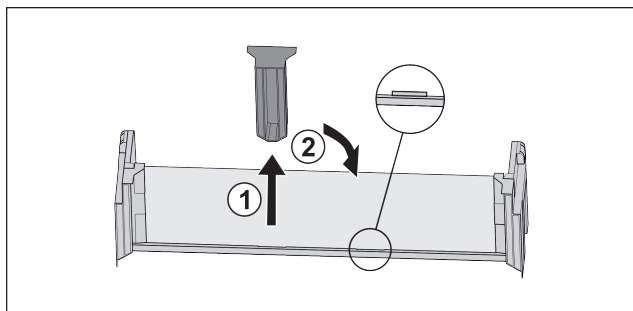

Fig. 87
- Pull off the middle holder Fig. 87 (1).
- Insert the middle holder in the second position Fig. 87 (2).